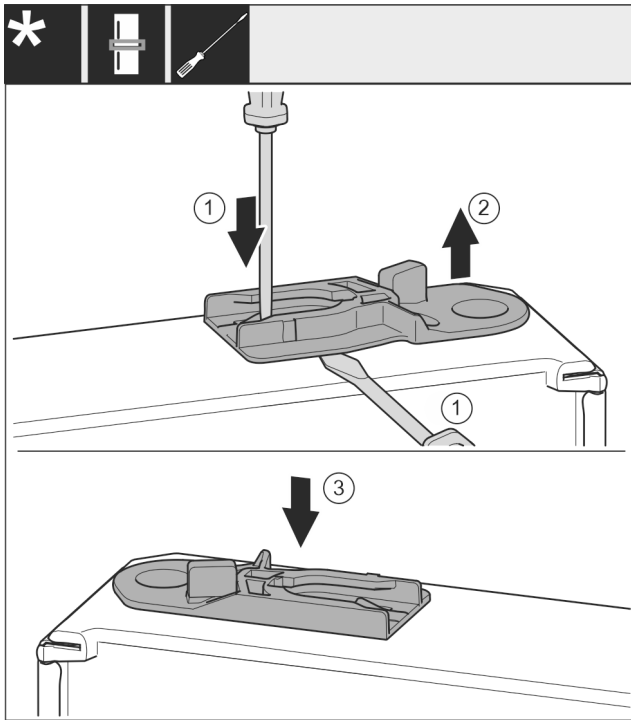

Fig. 51 *
- Pull out the guide bush: Press the tab Fig. 51 (1) with a flat-blade screwdriver and at the same time move the flat-blade screwdriver under the guide bush Fig. 51 (2).*
- Insert the guide bush Fig. 51 (3) supplied on the other side of the housing.*